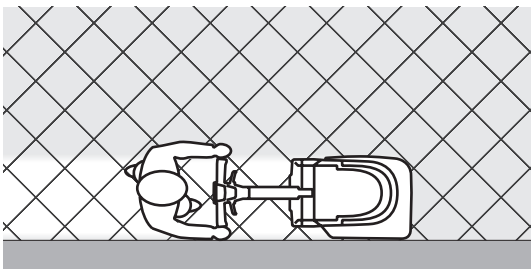

Figure 3
9. If necessary, in order to use the handlebar allowing it to tilt, press the lever (8) and lock it with the button (9B).
*To unblock the function of the push-buttons (9A, 9B) and return to the lowered front squeegee and fixed handlebar, briefly press the squeegee lever (7) or the handlebar inclination lever (8).*
10. For floors with particularly tough dirt, the pressure of the brush on the floor can be increased by turning the knob (19) to the left. Turn the knob (19) to the right to decrease the pressure.
*For correct scrubbing/drying of floors at the sides of the walls, Advance suggests to go near the walls with the right side of the machine as shown in figure 3.*